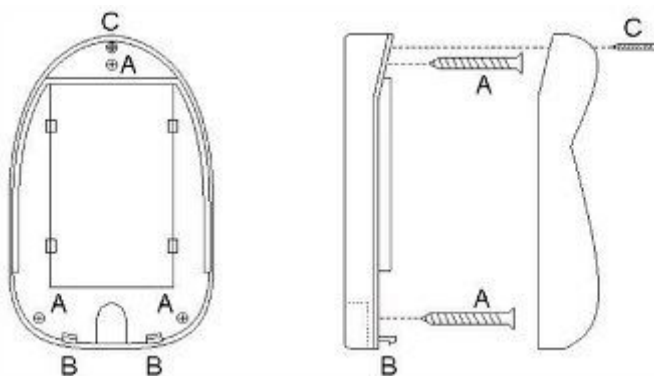

Fig. 3
- Fix the internal body with the three A screws (fig. 3).
- Use the three B screws (fig. 3) to obtain the alignment of the transmitter with the receiver; the receiver is equipped with a red internal pilot lamp that is on when both photocells are aligned.